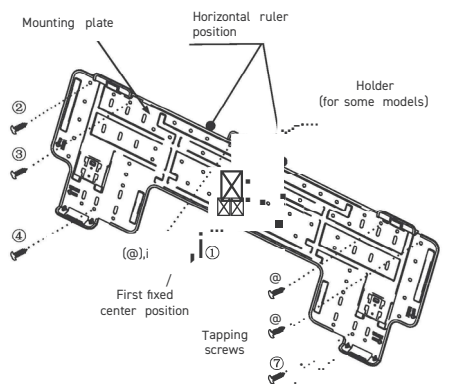

Fig. 405
- 5) Fix the mounting plate with as least 7 self-tapping screws. For some mounting plates with a holder in the middle, at least 8 screws are required. (Fig. 405)